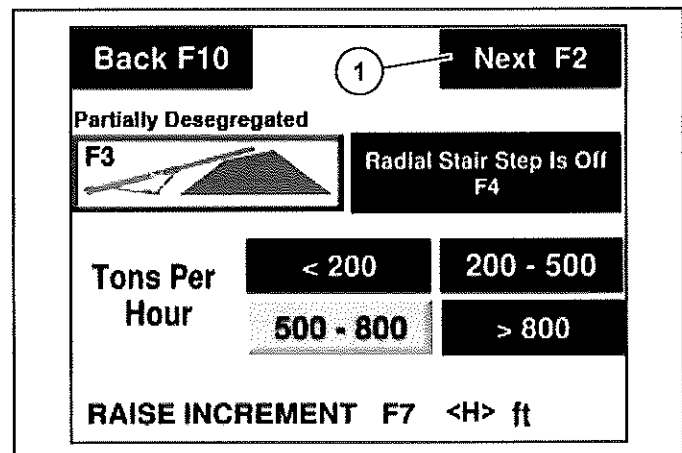

Figure 63
7. Press screen Next (Item 1) (Figure 63) or [F2] to continue.